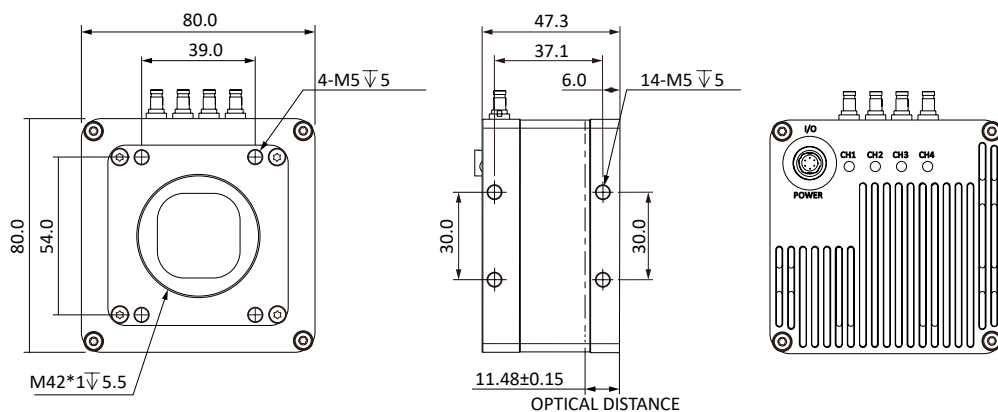

Fig. 1-1: Mechanical Dimensions (in mm) for Cameras with 80 * 80 * 47mm housing (M42 interface).
- Fig. 1-1: Mechanical Dimensions (in mm) for Cameras with $80 \times 80 \times 47$ mm housing (M42 interface).